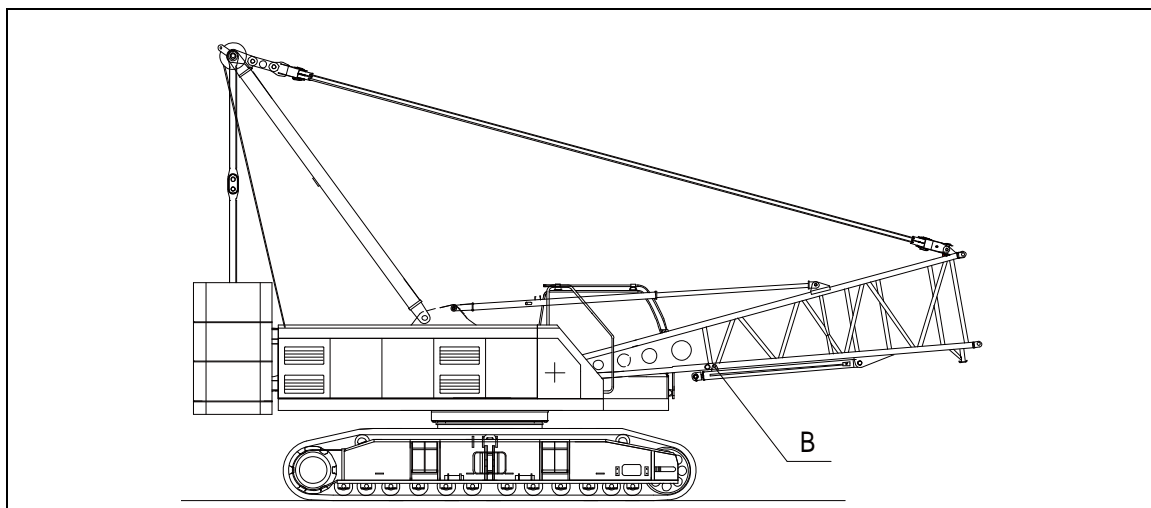

Figure 5-36 Fixation of mounting cylinder
- Retract the mounting cylinder completely. See figure 5-36.